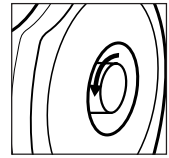

FIG. 1
2. Loosen the locking mechanism by turning it counterclockwise and remove the endcap from the unit (Fig. 1).